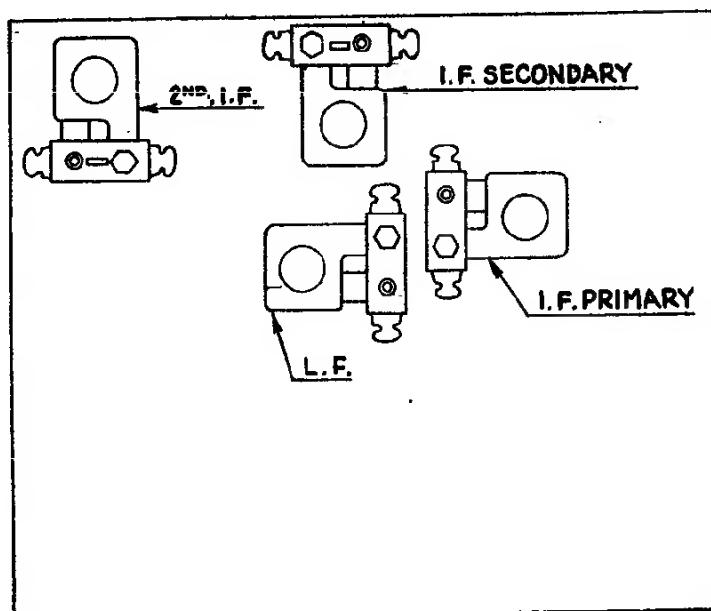

Fig. 40. Models 6, 9, and 12 (Code 122)
Next adjust the secondary and primary I.F. condensers. These are the right-hand ones on Fig. 40.
Low Frequency Adjustment. Now tune the Receiver and signal generator to 700 K.C., and adjust the condenser (LF) on Fig. 40. During this operation the tuning condenser must be shifted and the compensator must be adjusted to bring in the maximum signal.